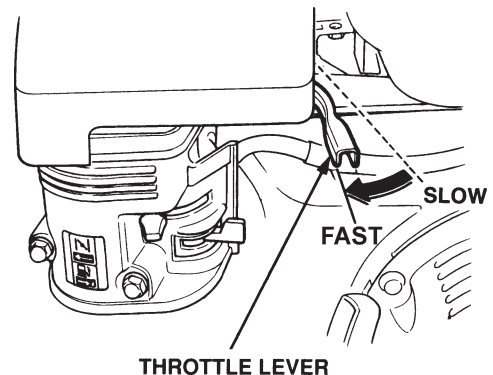

Figure 6. Throttle lever
3. Move the throttle lever (Figure 6) away from the slow position, about 1/3 of the way toward the fast position.